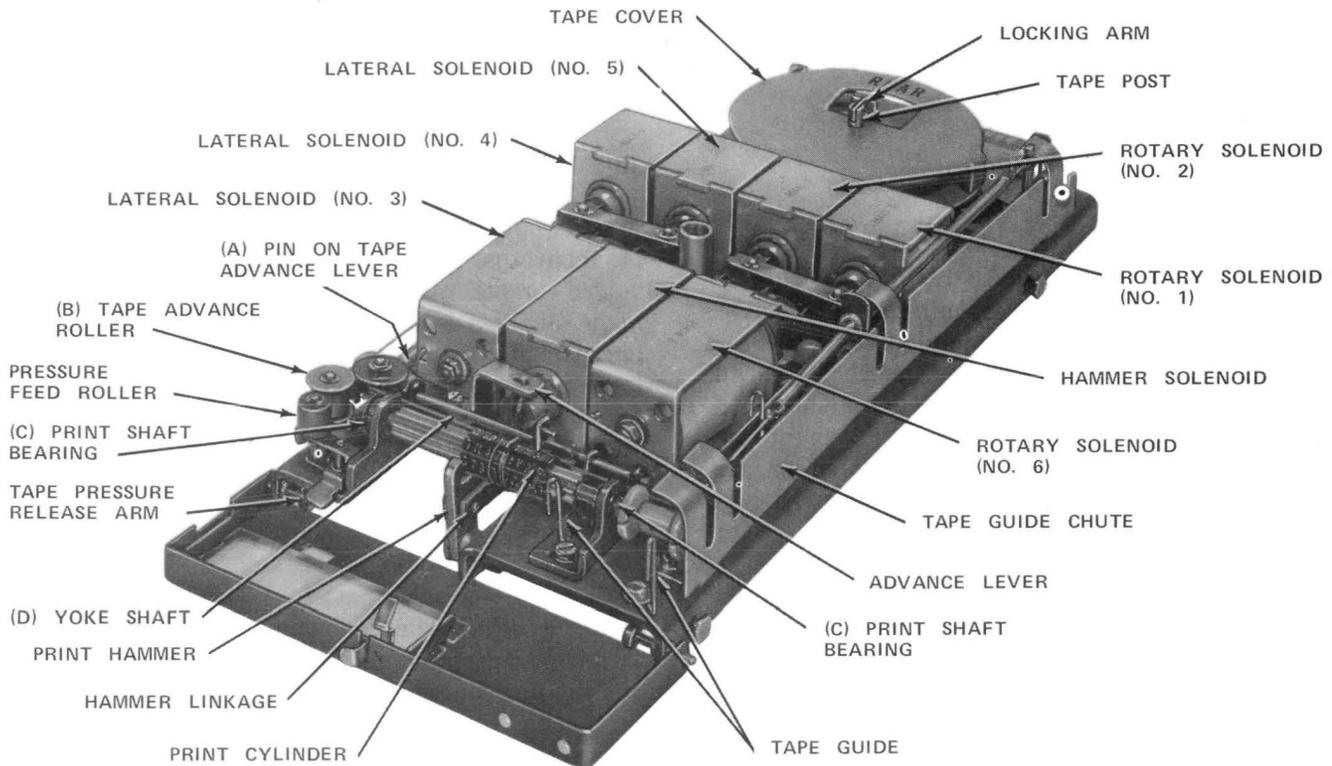

Fig. 1—KS-19717, L6, Tape Printer—Cover Removed
1.06 To show the location of component parts, the KS-19717, L6, tape printer, with cover removed is illustrated in Fig. 1.
◆If the installation date is exceeded, KS-19139, L4, lubricant should be applied sparingly to the following points shown in Fig. 1.